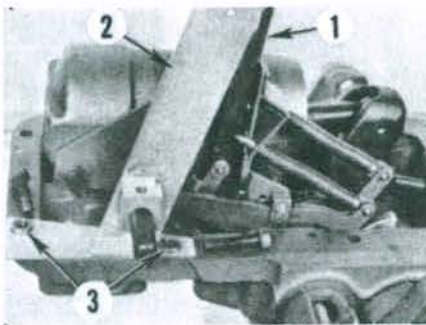
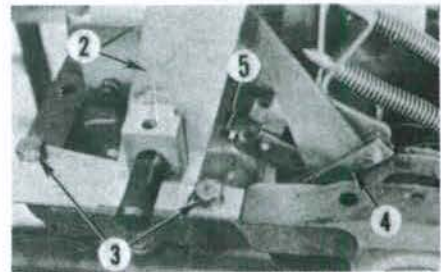
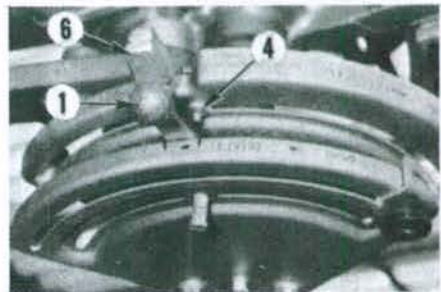
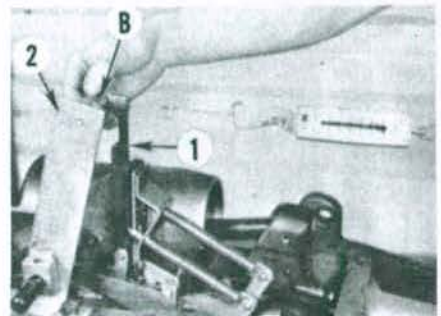

Fig. 219—The special gage tool (MFN 1080-D) shown at (2) should be installed using two Nuday No. 6088 bushings (3) and bolts. Vertical lever is shown at (1).
Fig. 220—Refer to text for internal adjustment of lift cover linkage.
Fig. 221—View of control quadrant. Pressure control model is shown.
Fig. 222—Refer to text for testing and adjustment of draft control linkage.
**220. DRAFT CONTROL LINKAGE.** To adjust draft control linkage, install special gage tool (MFN 1080-D) onto lift cover using special bushings (Nuday No. 6088) as shown in Fig. 219. Be sure vertical lever (1) is to rear of setting rod on gage tool, then slide Nuday No. 6089 bushing (B—Fig. 222) over the setting rod.
If equipped with pressure control, move pressure control lever (4—Fig. 220) upward. On all models, turn position control adjustment screw (5) outward several turns. Move position control lever against transport stop and place draft control lever between sector marks as shown in Fig. 221. Attach a suitable spring scale to vertical lever (1—Fig. 222) and apply a 1.36 Kg (3 pound) pull